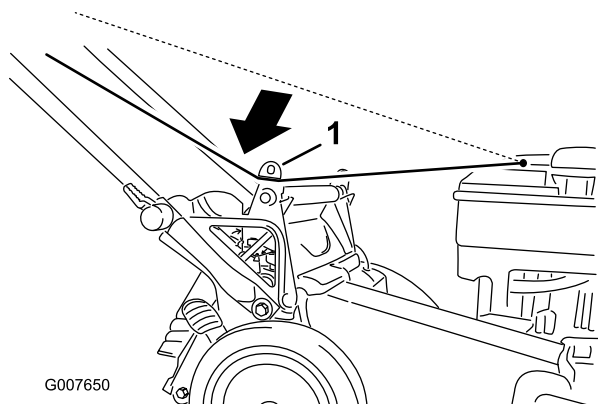

Figure 20
1. Route the starter rope around the lower-rope guide (Figure 20).